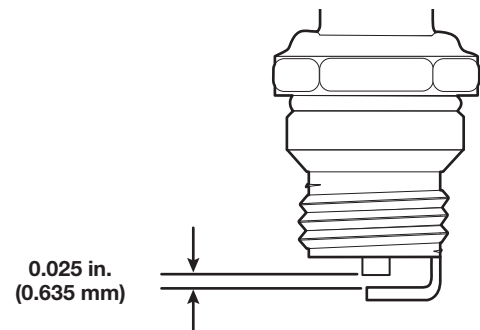

Fig. 40
6. Use a feeler gauge to set the air gap at **0.025 in. (0.635 mm)** (Fig. 40).